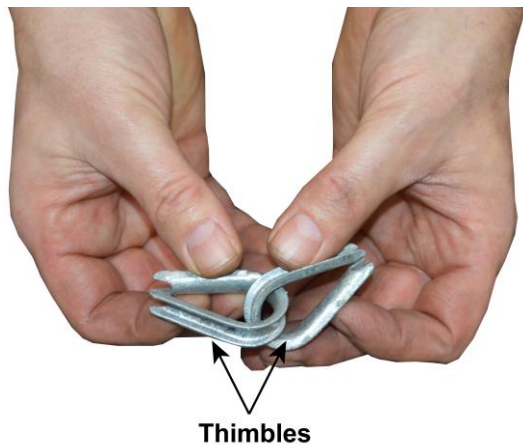
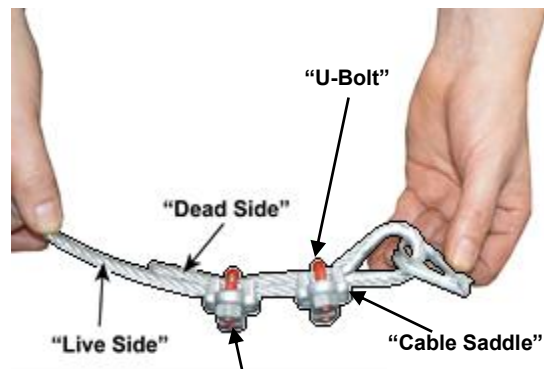

Figure 2-5
Figure 2-6 Crosby Cable Clamp
- 1) Slide thimbles together. (Refer to Figure 2-5)
- 2) Slide (2) two Crosby cable clamps onto the cable.
- o The U-bolt rests on the "dead" (shorter) end of the cable. (Refer to Figure 2-6)